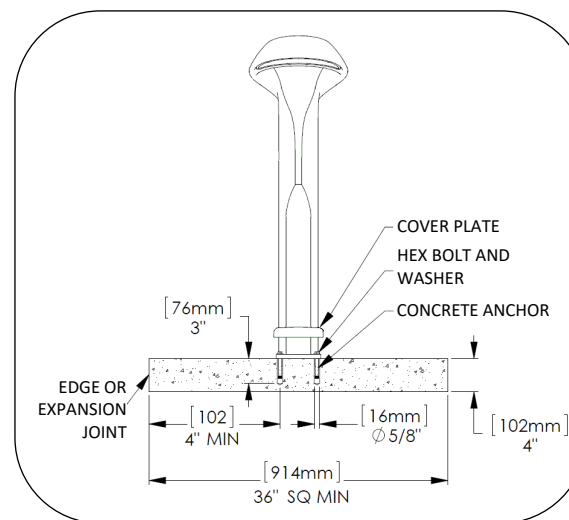

Fig. 2 – Minimum concrete slab size
4. Drill holes according to Fig. 2. Clear holes of debris.
11. Slide cover plate up, if included, and install washers and hex bolts as shown in Fig. 2.